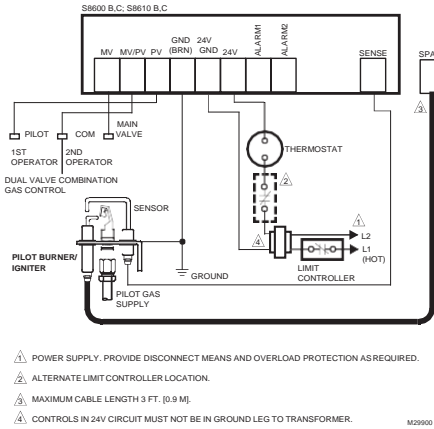

Fig. 4. S8600 B,C; S8610 B,C connections with remote flame sensing in a heating system with an atmospheric burner.
- Fig. 4 shows the basic circuit for the B and C models with separate sensor and igniter in a heating system with atmospheric burners.